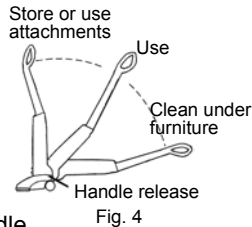

Fig. 4
4. When using the crevice tool or dusting brush, the vacuum must be in the upright position. (Fig. 4)